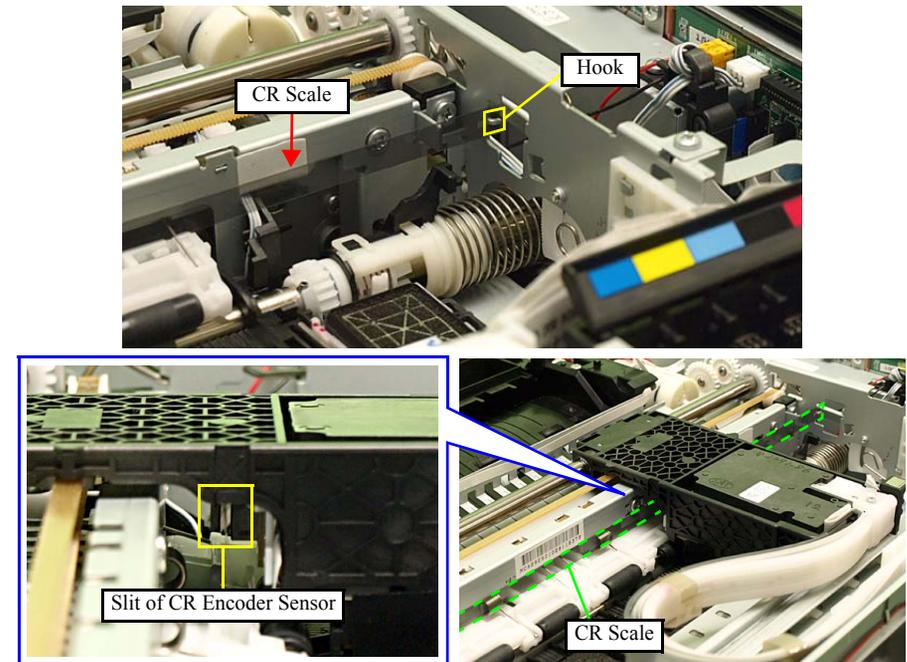

Figure 4-69. Removing the CR Scale(1)
- Make sure to put the CR Scale through the slit of the CR Encoder Sensor. (See Fig. 4-69.)